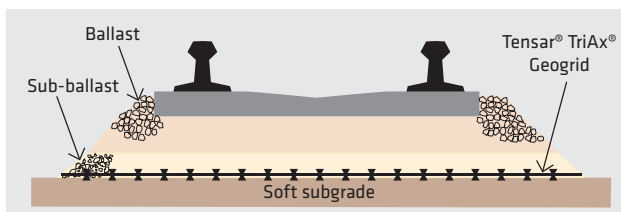

FIGURE 3a: Sub-ballast stabilization provides improved bearing capacity.
- ▶ **Sub-ballast Stabilization** – installed at the bottom of the sub-ballast, TriAx Geogrids help distribute imposed loads more efficiently over the underlying subgrade, leading to a reduction in the required sub-ballast layer thickness (Figure 3a).